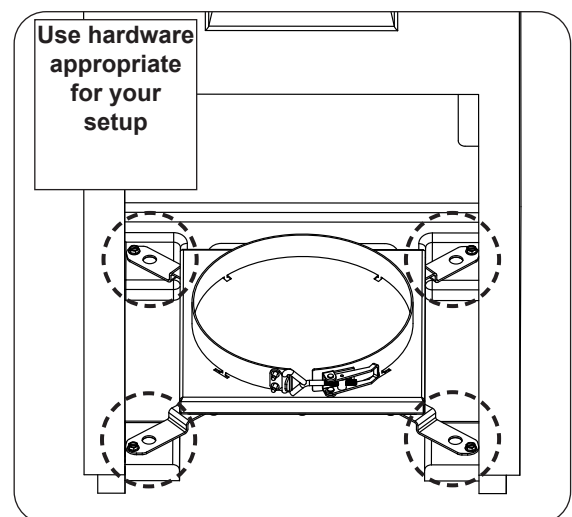

Fig. 20-3 Mount base to floor
2. Using appropriate mounting hardware for the floor material/construction, secure the lantern base into the floor. The interior of the base has four $1\frac{1}{2}$ " holes that will allow for the base to be fastened to the floor. See Fig. 20-3.